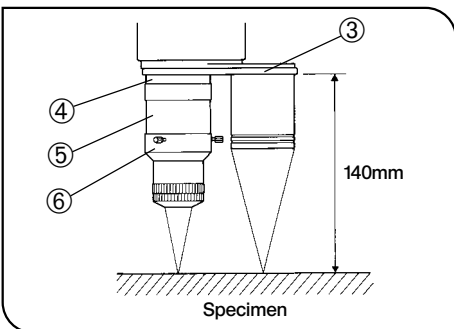

Fig. 19
◎ This is convenient when using a parfocal objective (PF) with the SZX-2RE revolving nosepiece ③ and the SZX-AL20X. (Fig. 19)
- Attach the provided parfocal correction ring ④ to the DFPLAPO1XPF ⑤ by screwing in, then attach the SZX-AL20X ⑥. (Fig. 19)